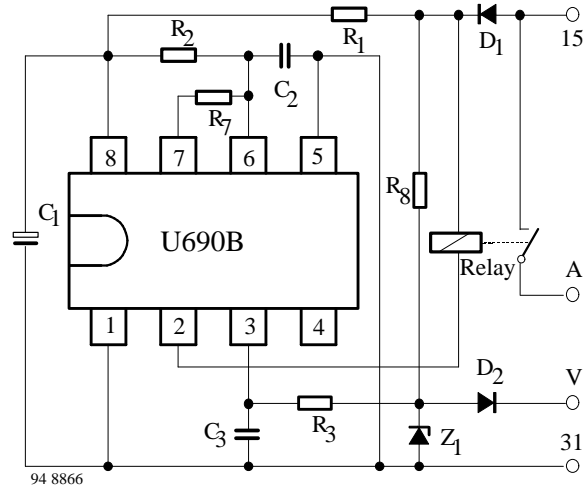

Figure 5. Speed switch
**Speed Depending Switch with Hysteresis, Figure 5**